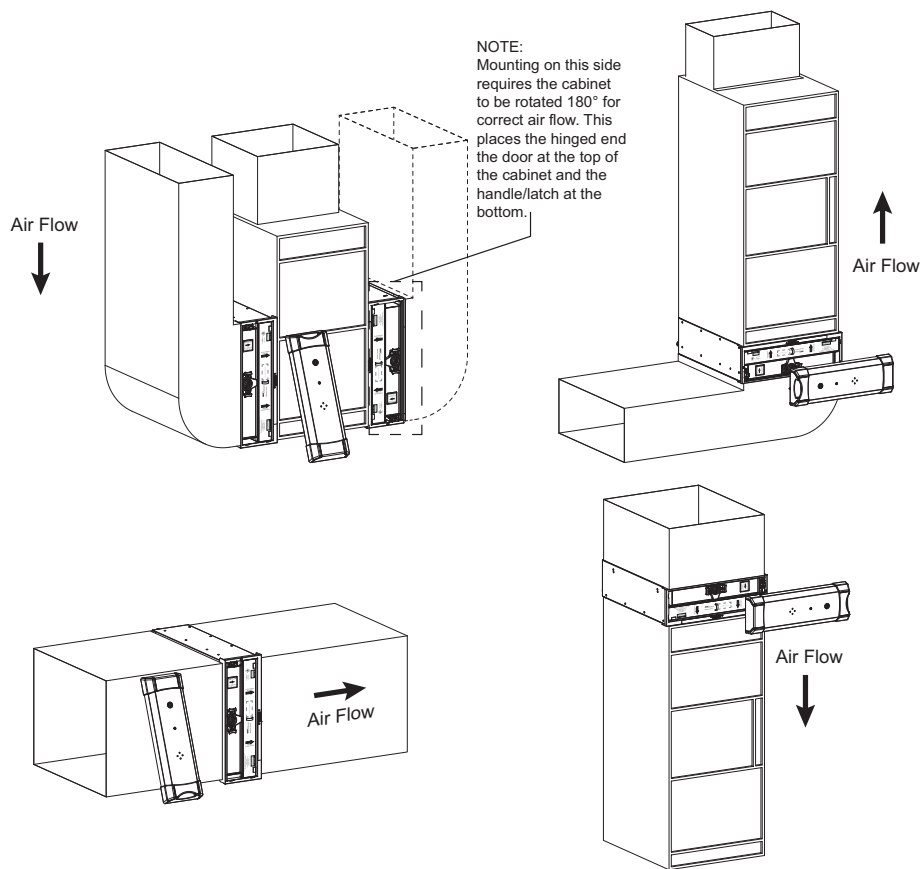

Fig. 3 – Air Purifier Cabinet Orientation
1. Identify a mounting orientation for the Air Purifier in the return air duct (see Figures 3 and 4).
5. Position the cabinet between the furnace and return air duct (see Figures 3, 4, and 5). A transition duct may be required. On some furnaces, one or more screws may interfere with the ease of removal of the purifier door. In this case, replace the interfering screw(s) with pop rivet(s). Removing the screws without replacing them with pop rivets may have an adverse effect on air sealing or structural integrity of the furnace.